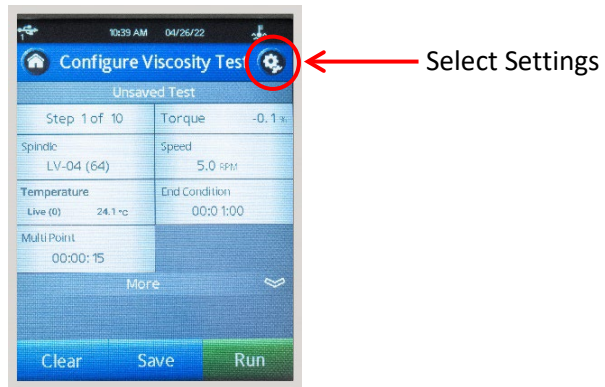

Figure 55: Select Settings
4. Press the **Settings** button on the top right corner. See Figure 55.